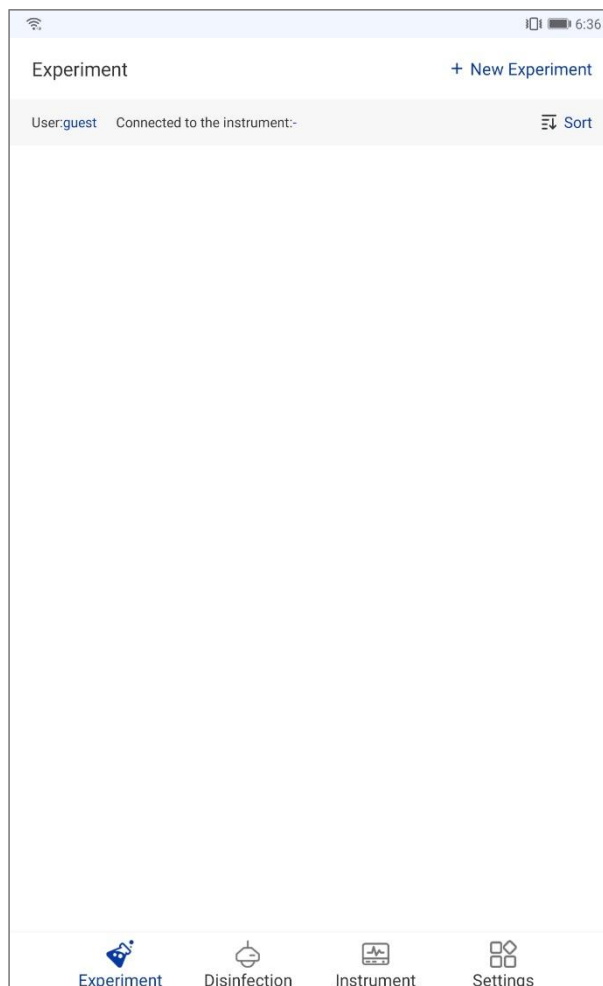

Figure 5-2. Application Software -Main Interface
After login, the application software will enter the main interface, as shown in figure 5-2.
-  **Reminding:** experiment tab is selected on the main interface by default, therefore the application software displays the Experiment interface by default, as shown in figure 5-2.